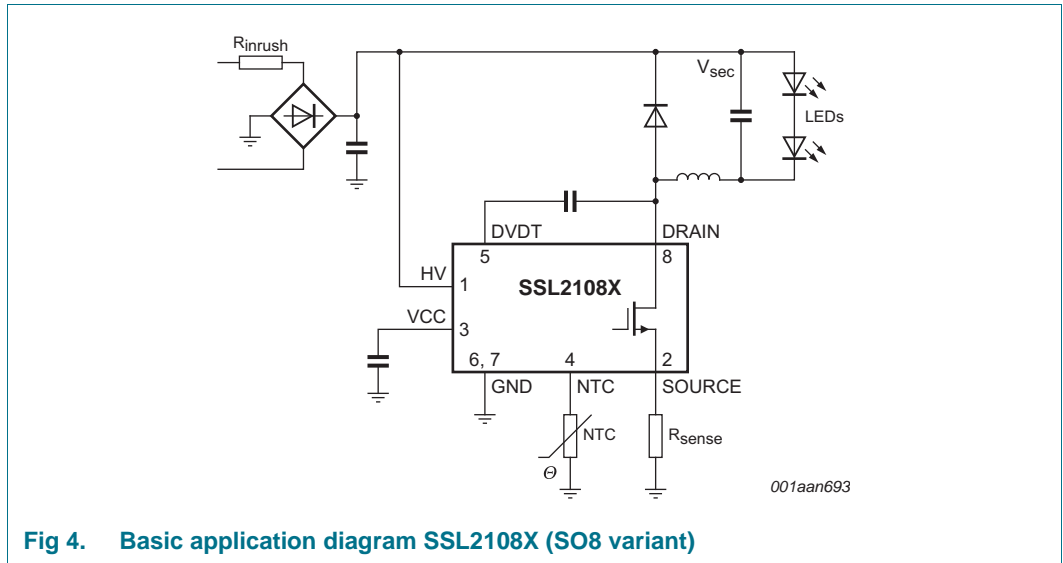
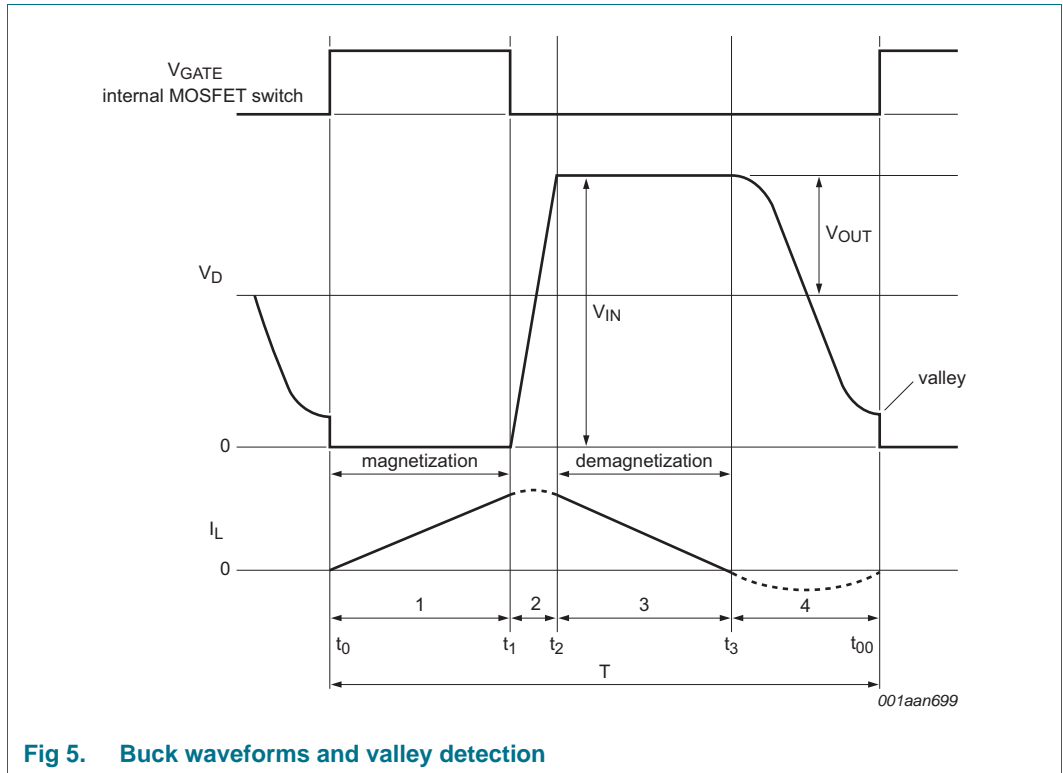

Fig 4. Basic application diagram SSL2108X (SO8 variant)
Fig 5. Buck waveforms and valley detection
- Low component count (see Figure 4) LED driver solution:
The converter in the SSL2108X is a Boundary Conduction Mode (BCM), peak current controlled system. For the basic application diagram see Figure 4, for the waveforms see Figure 5. This converter type operates at the boundary between continuous and discontinuous mode. Energy is stored in inductor L each period that the switch is on. The inductor current  $I_L$  is zero when the internal MOSFET switch is switched on. Thereafter, the amplitude of the current build-up in L is proportional to  $V_{IN} - V_{OUT}$  and the time that the internal MOSFET switch is on. When the internal MOSFET switch is switched off, the current continues to flow through the freewheel diode and the output capacitor. The current then falls at a rate proportional to the value of  $V_{OUT}$ . The LED current  $I_{LED}$  is almost equal to half the peak switch current. A new cycle is started, as soon as the inductor current  $I_L$  is zero.
A new cycle is started when the primary switch is switched on see Figure 5. Following time  $t_1$ , when the peak current is detected on the SOURCE pin, the switch is turned off and the secondary stroke starts  $t_3$ . When the secondary stroke is completed with the coil current at  $t_3$  equaling zero, the drain voltage starts to oscillate at approximately  $V_{IN} - V_{OUT}$  level. The amplitude equals  $V_{OUT}$ . A special feature, called valley detection is an integrated part of the SSL2108X circuitry. Dedicated built-in circuitry connected to the DRAIN pin, senses when the voltage on the drain of the switch has reached its lowest value. The next cycle is then started and as a result the capacitive switching losses are reduced. A valley is detected and accepted if both the frequency of the oscillations and the voltage swing are within the range specified ( $f_{ring}$  and  $\Delta V_{vrec(min)}$ ) for detection. If a valid valley is not detected, the secondary stroke is continued until the maximum off-time ( $t_{off(high)}$ ) is reached, then the next cycle is started.